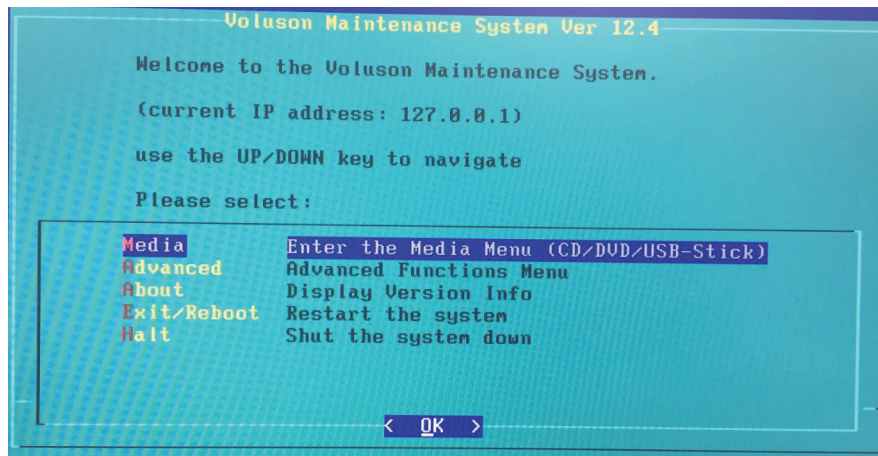

Figure 5-37 Voluson Maintenance System - Main menu
- 3.) In the “Voluson Maintenance System” main menu (Figure 5-37) select [Media].